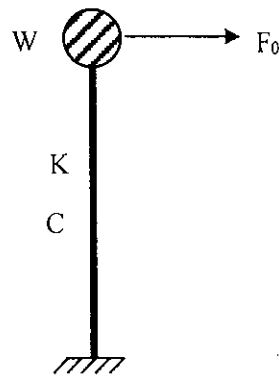

Figure 1: Schematic of a single degree of freedom system
- Q.6 A free vibration test is conducted on a Single Degree of Freedom System (SDoF) structure as shown in Figure 1 below. During the test, the roof of the system is displaced by 5 mm. After the instantaneous release of this initial displacement, the maximum displacement at the end of first complete cycle of oscillation was only 4mm and the period of this displacement cycle is T=1.4. Assuming that the weight (W) and stiffness (k) of the system are 87583 kg and 180kN/mm, respectively, determine: